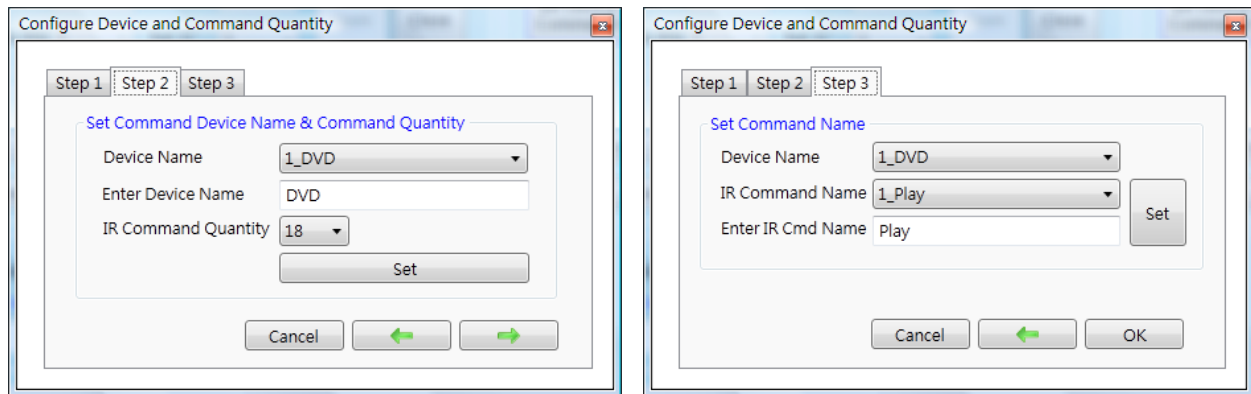

Fig. 9: Step 2 for device name & IR cmd Qty. Fig. 10: Step 3 for IR command names.
**Step 2** : Set device name and the IR command quantity for the device (Fig. 9).